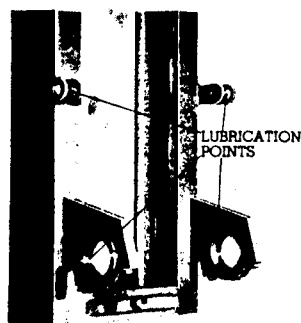

FIG. 3
**NOTE:** Lubricate all pivot points between truck and mast at points shown on Fig. 3.